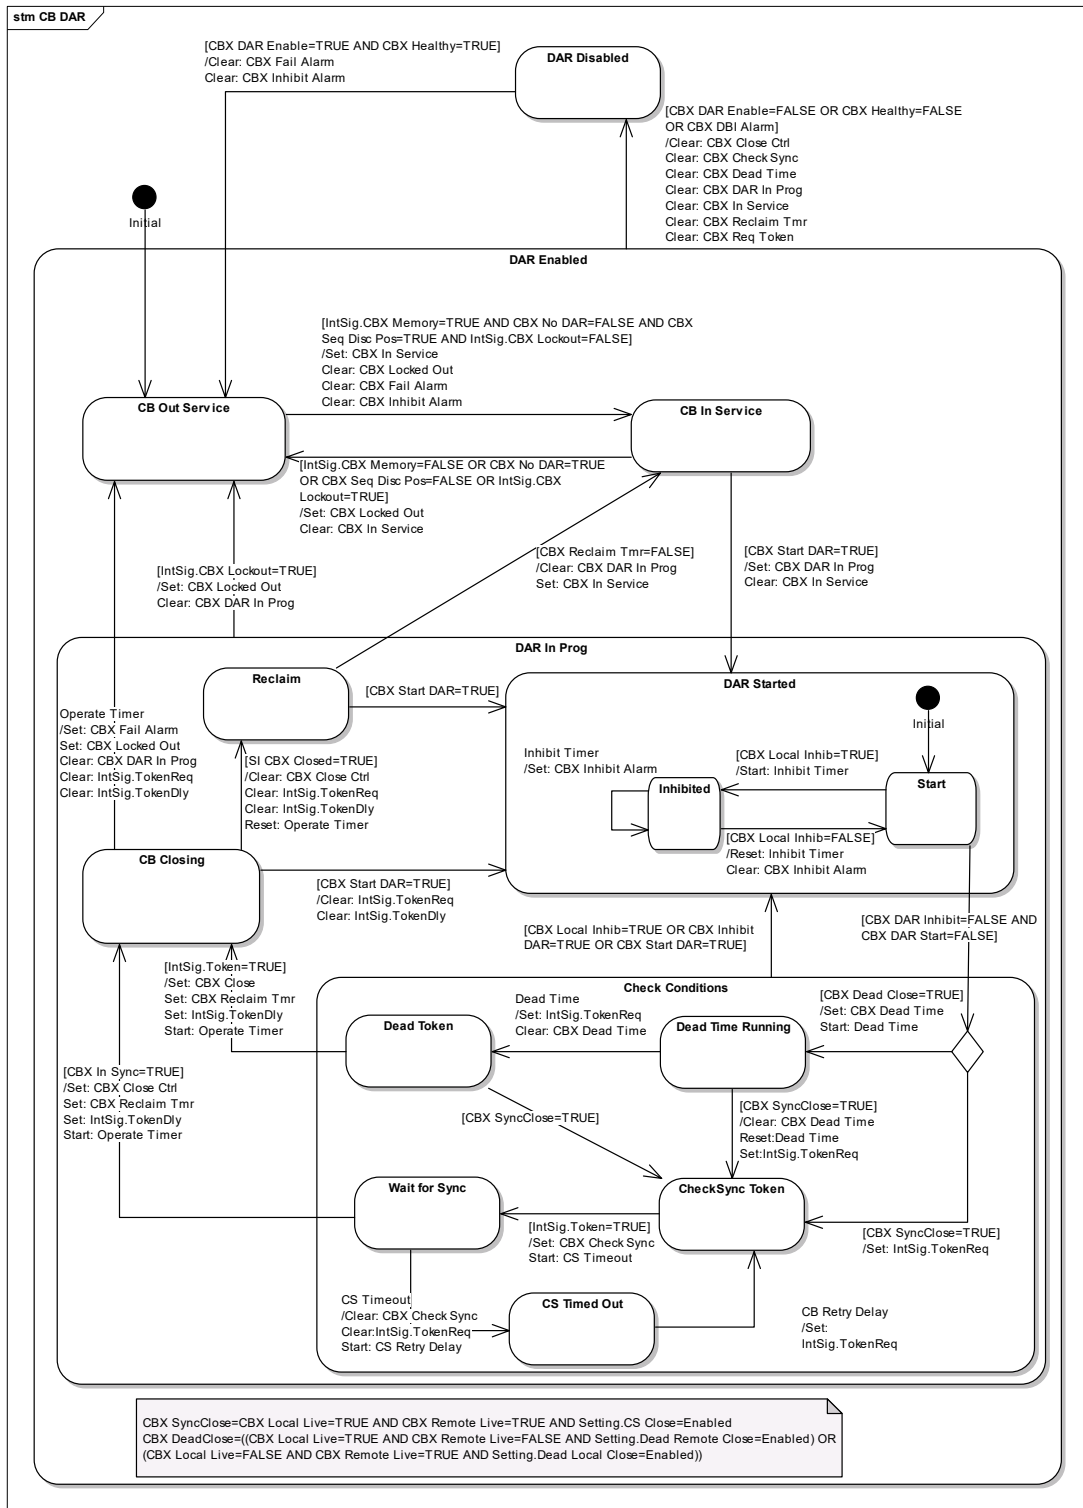

Figure 17: CB function – CB DAR logic state chart
- Figure 17: CB DAR Logic – The main DAR logic for the circuit breaker control.